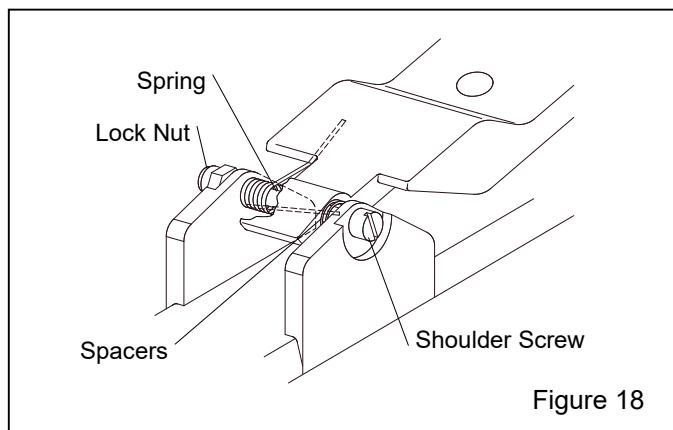

Figure 18
6.6.3 Handle lever replacement, Figure 18
spacers and spring, as shown in Figure 18. The bent end of the spring is against the handle lever, facing up. The straight end is against the body, facing down.